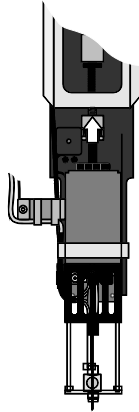

Figure 25.
2. Press the heated cartridge firmly against the Z-axis slider to ensure that the Syringe heater Unit engages. Move the plunger up (plunger holder) until the thread of the screw catches the thread of the plunger bushing. Tighten the screw to fix the plunger holder and attach the holding clamp around the cartridge. See Figures 25 and 26.